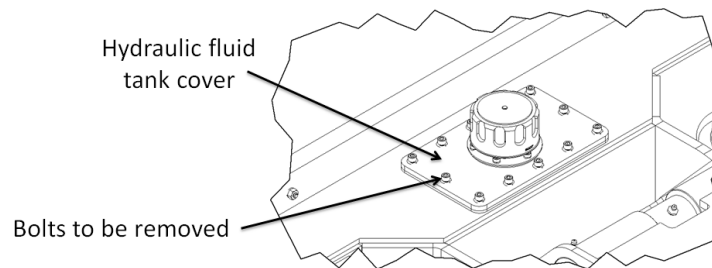

Figure 22 : Hydraulic fluid tank cover details
1. Remove the 12 bolts of the hydraulic fluid tank cover (see Figure 22). Remove the cover to have access to the gasket.